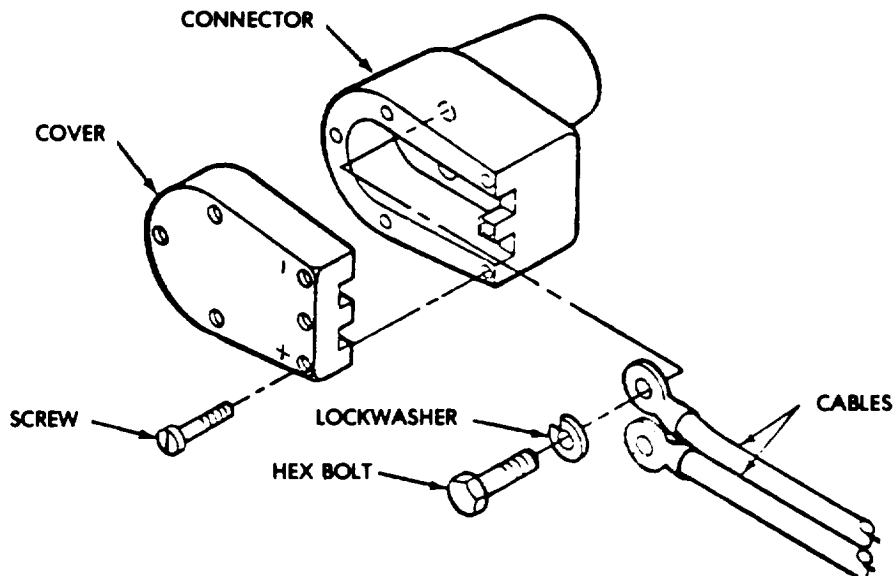

Figure 4-21, Connector Assembly.
- b. Connector Assembly Removal. (See figure 4-21.)
- (1) Remove the cover from connector by removing screws.
- (2) Remove the cables from connector by removing bolt and lockwashers.
- c. Connector Assembly Replacement. (See figure 4-21.)
- (1) Attach cables to connector with lockwashers and bolts.
- (2) Attach cover to connector with screws.